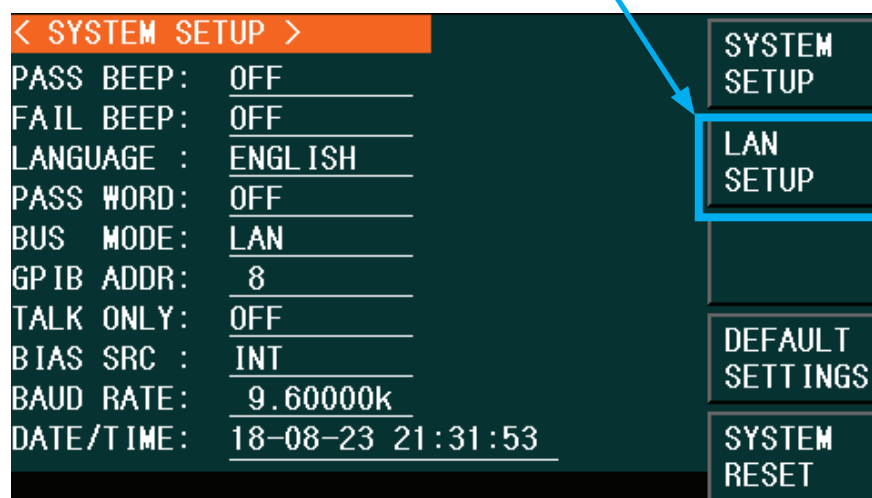

Figure 1
6. In the System Menu, press the LAN SETUP soft key (fig.1).